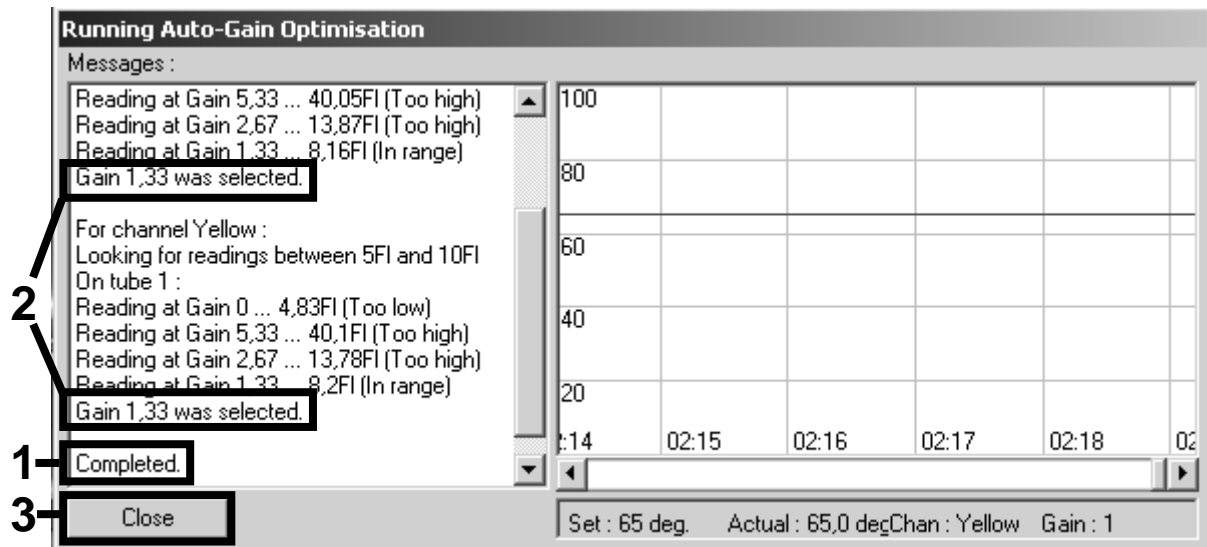

Figure 18. Gain optimization completed. Note gain values (in this case, 1.33 for both fluorescence channels).
12. A new “Running Auto-Gain Optimisation” window opens. Wait until “Completed” appears in this window (Figure 18). Write down the selected gain values for both channels, and then click “Close” (Figure 18).